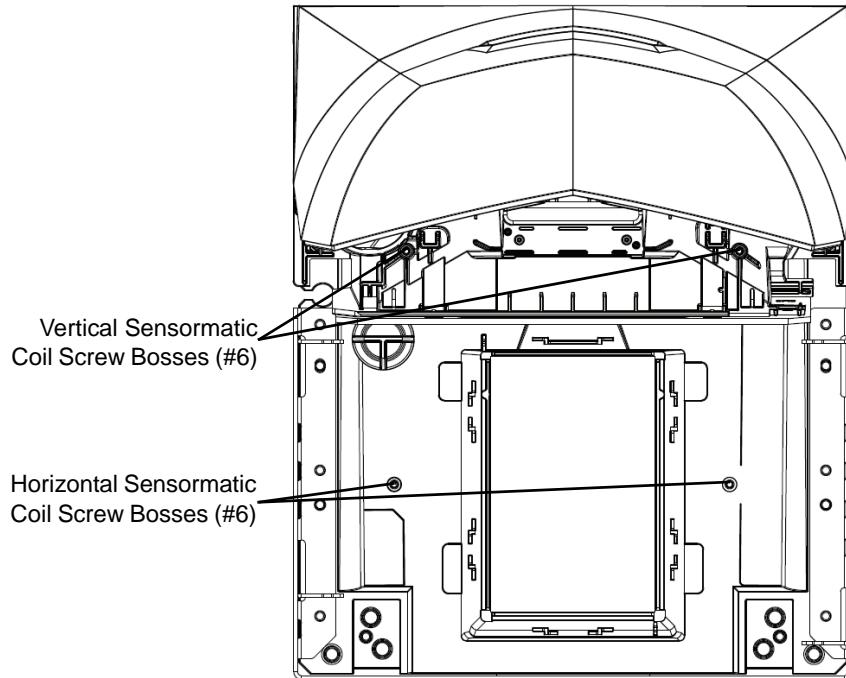

Figure 3-43 Sensormatic Coil Screw Holes (Platter and Tower Bezel Removed)
- e. Secure each coil with two screws (see *Figure 3-43 on page 3-34*).